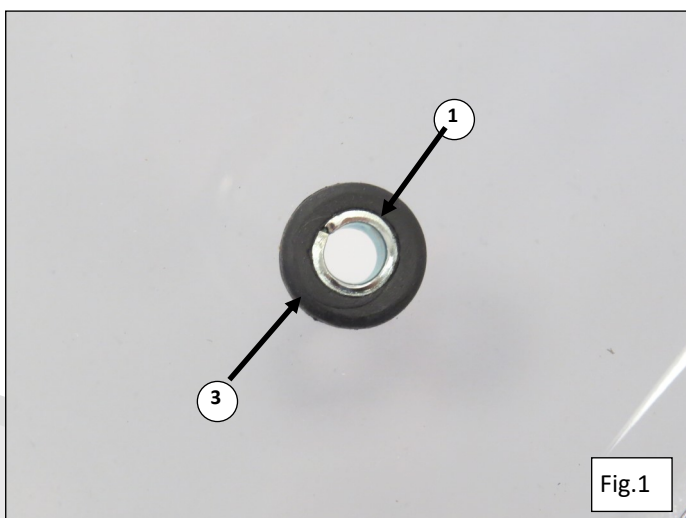

Fig.1
2. Fit rubber grommets (3) and grommet spacers (1) into screen as shown in Fig.1.
3. Fit Powerbronze screen to bike using M6x20 Socket Flange Screws (2).